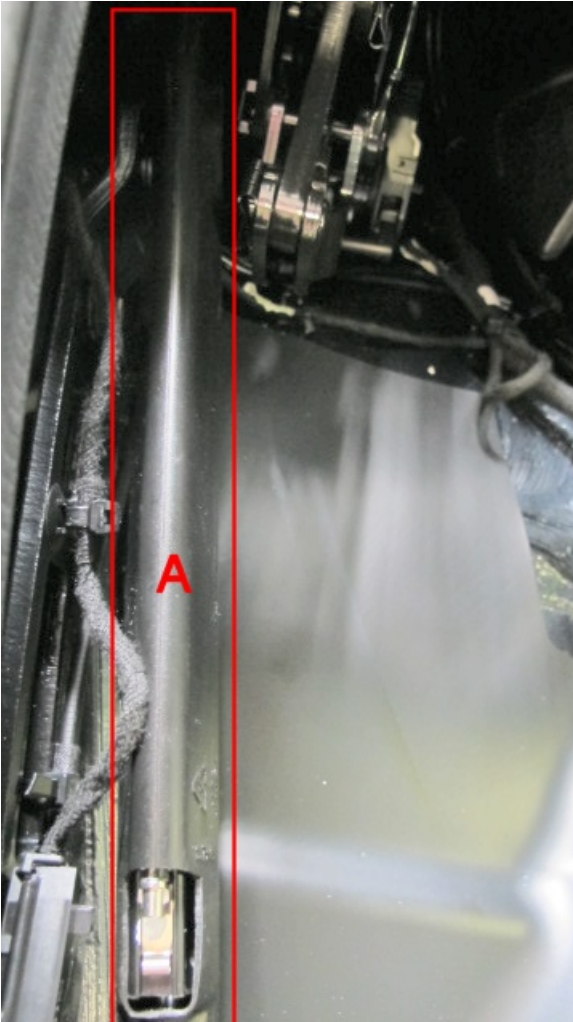

Figure 2
2. Identify the plastic cover 'A' fitted to the tonneau ram (see Figure 2)
3. Partially release the ram ball end retaining clip before releasing the ram from the ball end pin (see Figure 2)